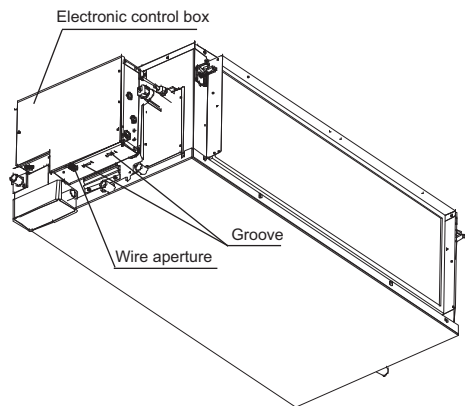

Fig. 19 —LED Display Panel Installation Location
2. The display panel has buckles on the bottom that are used to secure it to the control box, see Fig. 19.